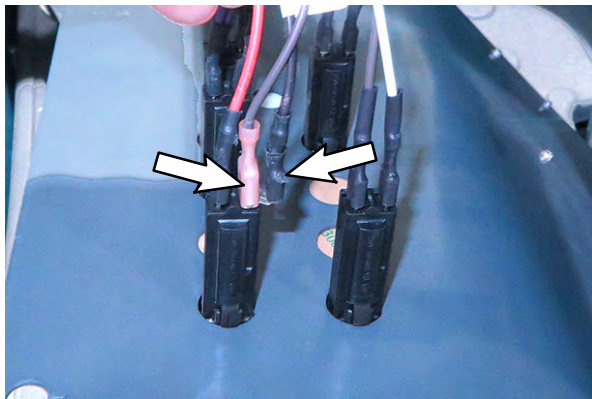
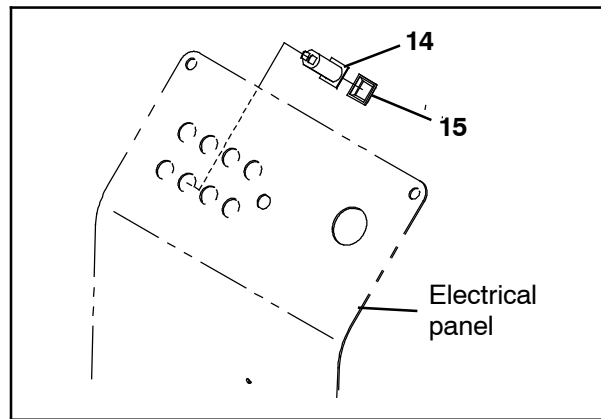

FIG. 8
FIG. 9
- 13.Disconnect the main wire harness 102C lead from circuit breaker 14. (Fig. 8)
- 14.Connect blue spotlight harness (3) T3 lead to circuit breaker 14 terminal where the main wire harness 102C lead was previously connected. (Fig. 8)
- 15.Connect the previously disconnected main wire harness102C lead to blue spotlight harness (3) T3 lead open terminal. (Fig. 8)
- 16.Install the circuit breaker boot (15) onto the 2.5- Amp circuit breaker (14).
- 17.Insert the 2.5- Amp circuit breaker (14) into electrical panel circuit breaker location 18. (Fig. 9)